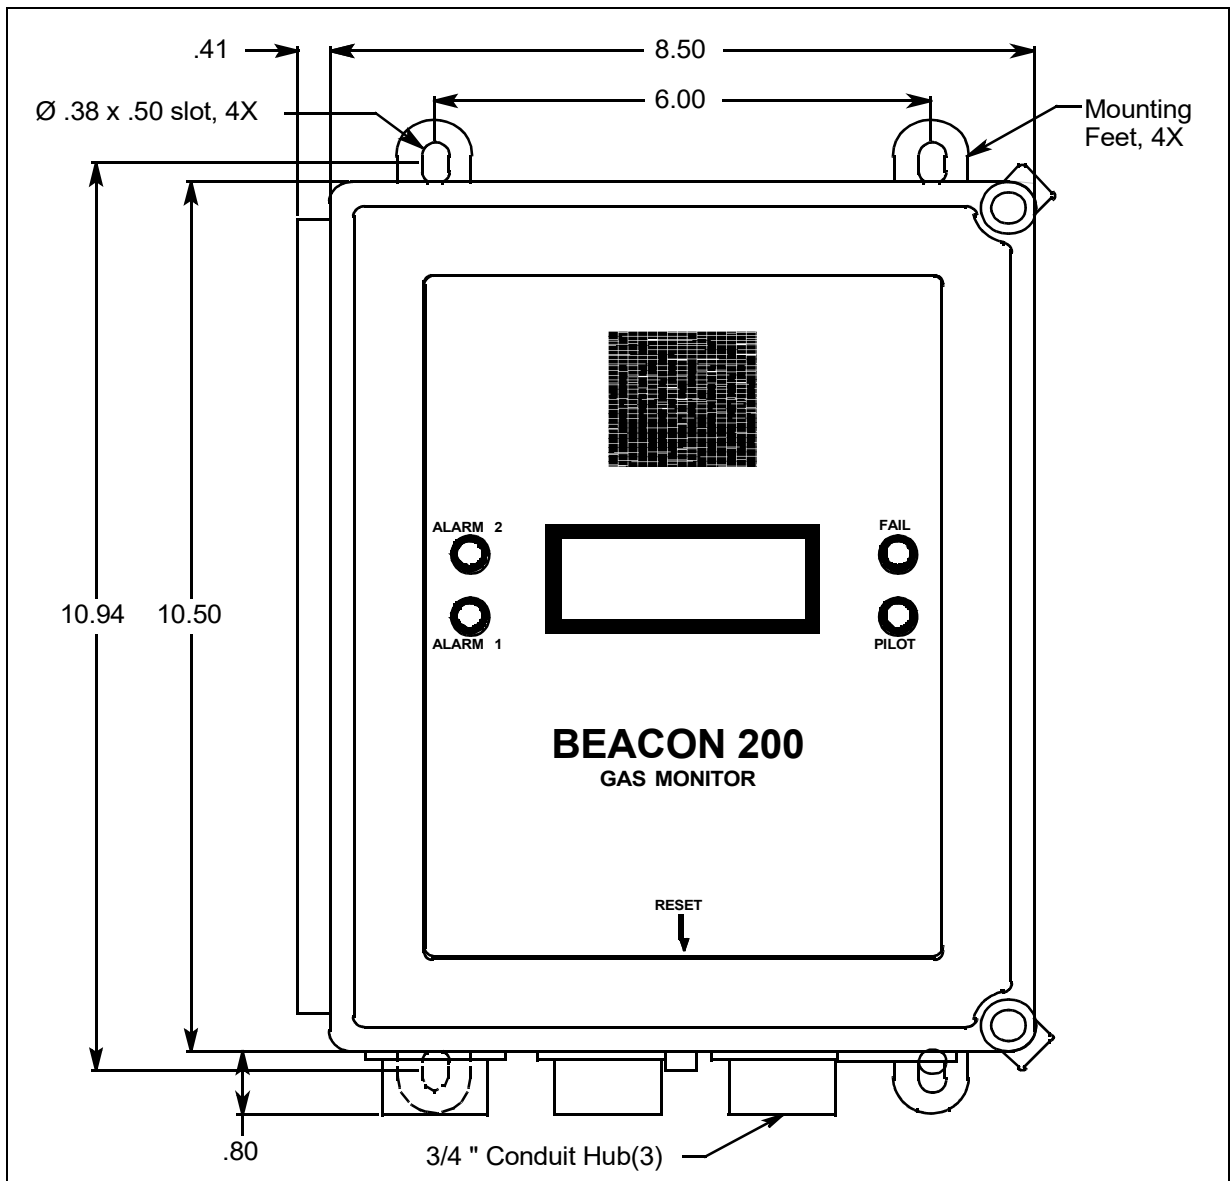

Figure 4: Beacon 200 Gas Monitor Outline and Mounting Dimensions
4. The Beacon 200 is shipped with the mounting feet positioned behind the housing. Loosen the screws that secure the feet to the housing, rotate the feet to their mounting position (as shown in Figure 4), then tighten the screws.
5. Insert 1/4 in. or 5/16 in. screws through the slots in the mounting feet at each corner of the housing to secure the housing to the mounting surface (see Figure 4).